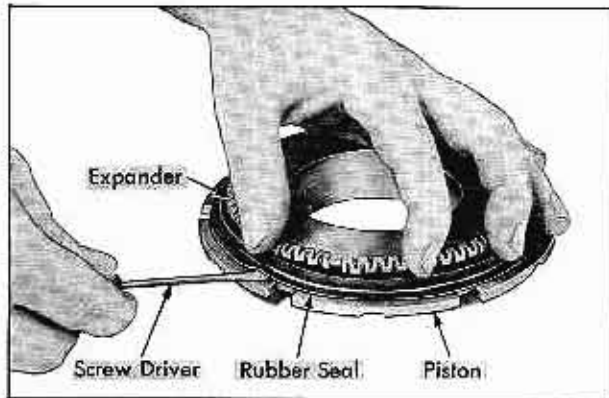

Fig. 14-42 Installing Oil Seal and Expander on Piston
5. While holding brass expander in position, work new inner piston rubber seal into ring groove with lip down over brass expander. Fig. 14-42.